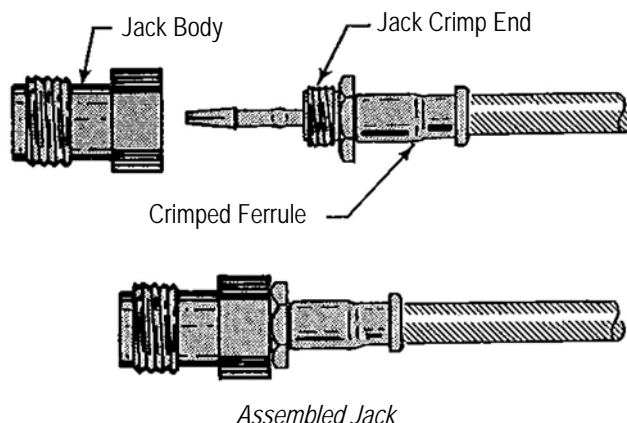

Figure 6
1. Assemble the jack crimp end and jack body as shown in Figure 6.